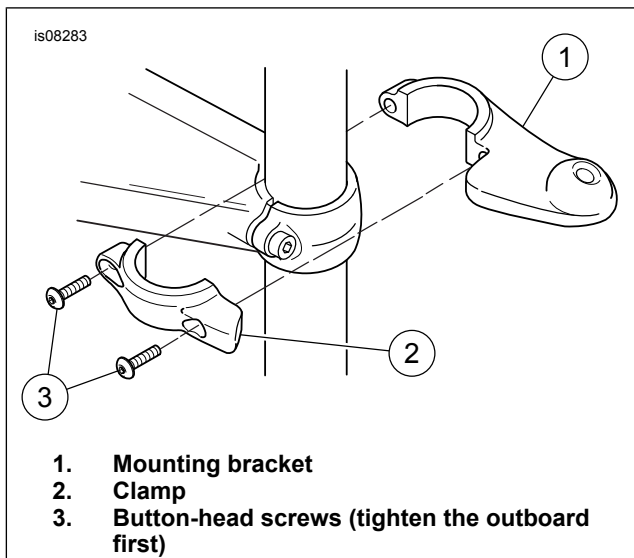

Figure 1. Install the Mounting Bracket on the Fork Tube (Right-Hand Side Shown)
3. See Figure 1. The mounting brackets (1) and clamps (2) are side-specific. Select the right-hand or left-hand bracket and clamp, and install on the fork tube using two button-head screws (3) from the kit.